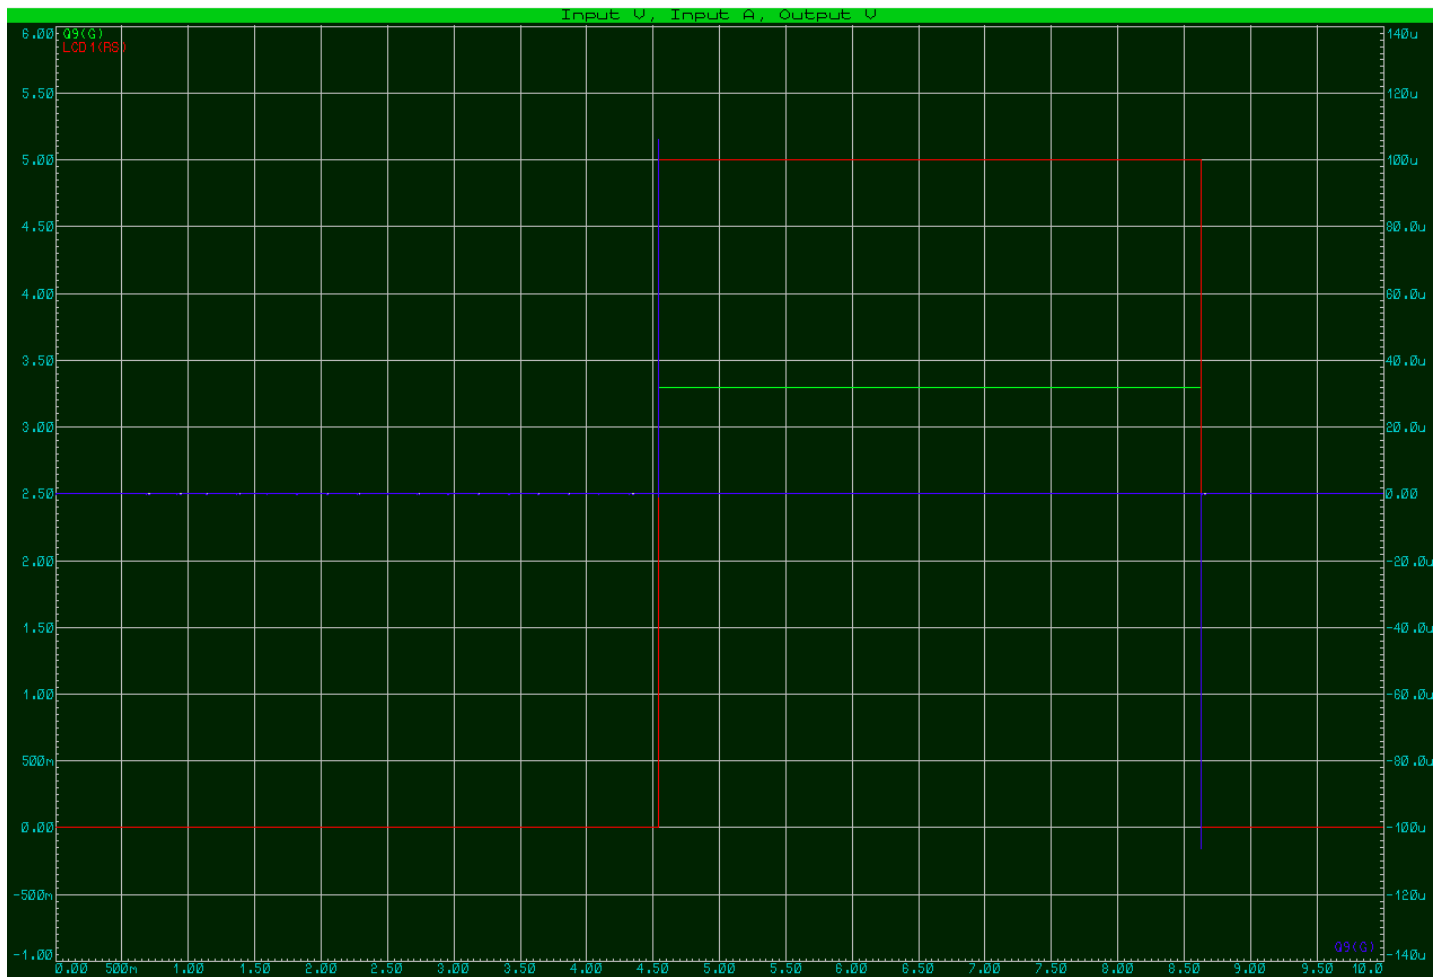

Fig. 14: LCD interface testing results
Figure 14 shows the input current, input voltage at Q9 (i.e. one of the MCU digital outputs). The figure also includes the output of the interface at LCD1(RS). First, the input current to the interface reaches a maximum of around $110\mu\text{A}$ (at 4.5 seconds), and a minimum of around $-110\mu\text{A}$ (at 8.5 seconds). These current spikes coincide with transitions from a strong low to a strong high and vice versa. Either way, this tells us that the interface will draw a range of current from $-110\mu\text{A}$ to $110\mu\text{A}$, which is far below the stated MCU limit per pin of $\pm 25\text{mA}$. Assuming that all LCD pins are being outputted to at the same time, the aggregate current drawn from the MCU pins will be $110\mu\text{A} \times 11$, which is 1.21mA . This is also far below the stated aggregate limit on the MCU pins of 120mA . Therefore, this interface will be appropriate for the current limits. Also, it can be seen that as the input voltage is a strong low (i.e. 0V), so is the output voltage. When the input voltage Q9(G) is a strong high (3.3V from the MCU), the output voltage LCD1(RS) is a strong high of 5V for the LCD. This indicates that the step-up interface works, and this is further shown by the LCD correctly displaying '156'. Therefore, this interface will be suitable.